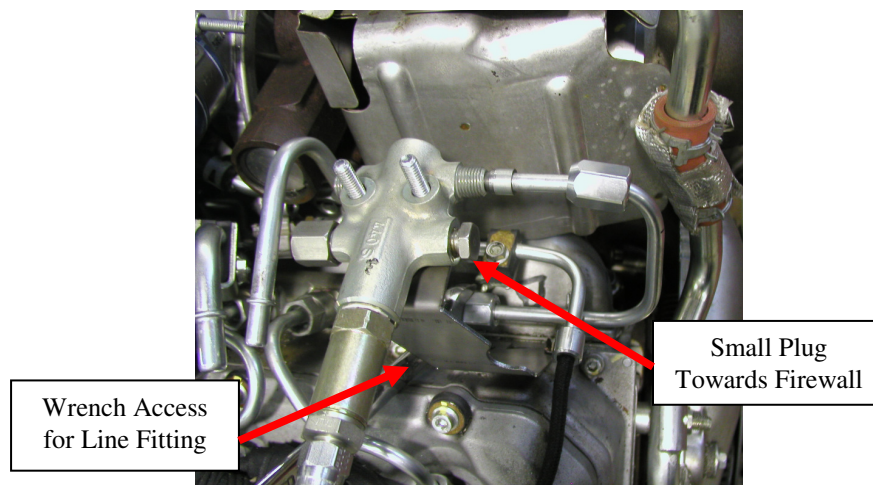

Figure 9: Junction Block Installed
13. Install the junction block and the short high-pressure fuel line. Orient the junction block so the smaller plug faces the firewall. Connect the short high-pressure line to the rail and the junction block, Figure 9. The junction block has a relief valve already installed to replace the system relief that was removed in step 10.
14. Tighten the fittings on the short high-pressure line by inserting a $\frac{3}{4}$ " wrench in front of the junction block bracket, Figure 9.